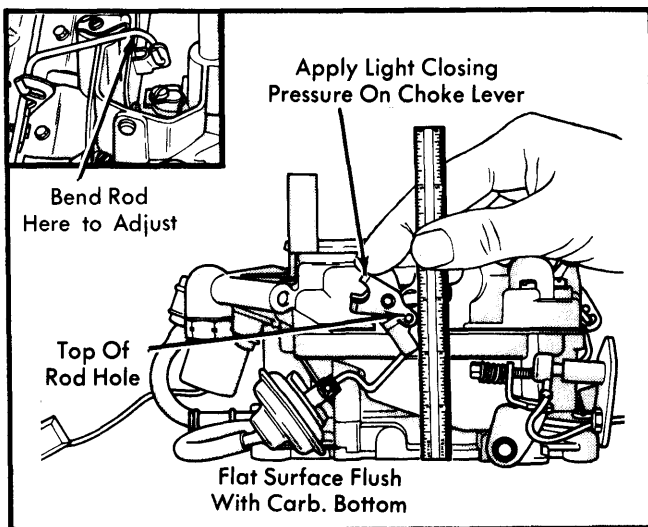

Fig. 7 Adjusting Choke Control Lever
- 1) Place carburetor on a flat surface. Make sure bottom of throttle body is flush with flat surface and that flat surface extends out under choke control lever. See Fig. 7.